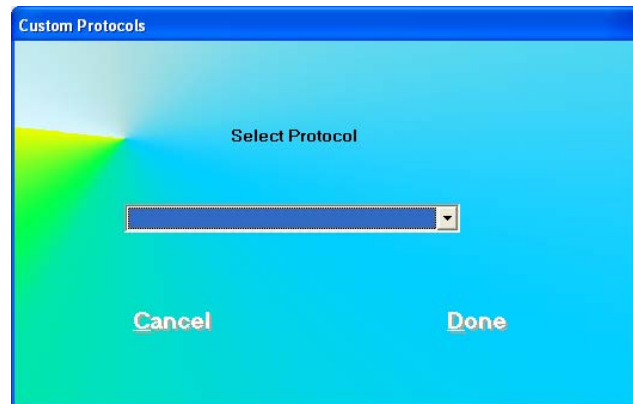

Figure 16-7
2. If there is more than 1 protocol, the Protocol Selection Screen will appear as shown in Figure 16-7.